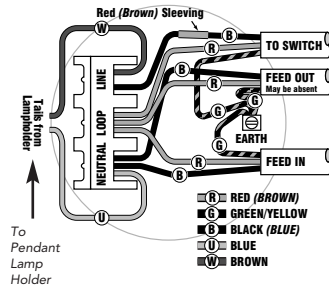

Figure 3a - Typical wiring circuit with looping requirement
8. Coloured sleeves are provided for use as follows:- The Red or Brown sleeve should be placed over the live or switched live cable for identification purposes where the cable used is black, as shown in Figures 3a & 3b.
9. Figure 3a & 3b show typical wiring diagrams for conventional lighting circuits. 3a having a looping requirement, 3b when using junction boxes for termination when looping is not required.
10. Ensure each cable is connected to the appropriate terminal, as shown in the typical diagrams - Figures 3a or 3b.
17. Make the connections from the lamp holder to the rose as shown in Figures 3a & 3b and tighten the terminal screws securely. Note: the colour codes of these cables will be brown and blue in all cases.
5. Make the connections to the lamp holder as shown in Figures 3a & 3b and tighten terminal screws securely.